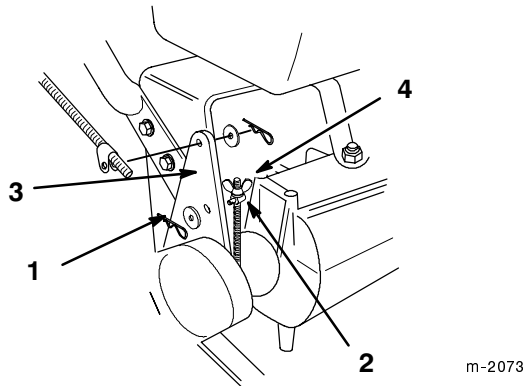

Figure 30
3. To adjust the brake remove the cotter pin and washer from the brake lever (Fig. 30).
4. Rotate the wing nut so the trunnion smoothly slides into brake lever (Fig. 30).
5. Secure trunnion to brake lever with washer and cotter pin (Fig. 30).